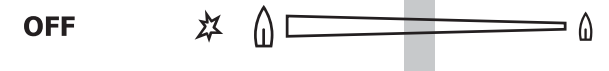

Fig. 2
4. If only the inner burner is needed, continue to rotate the gas control knob counterclockwise somewhere past grey area -Fig. 2.